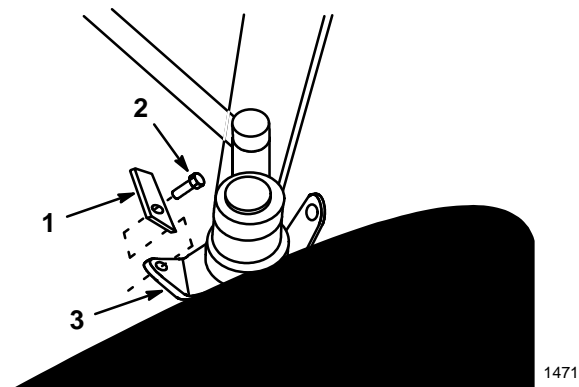

Figure 17
10. Remove the steering spindle stops, from tabs on front wheel spindles, to allow for tighter turning radius (Fig. 17).